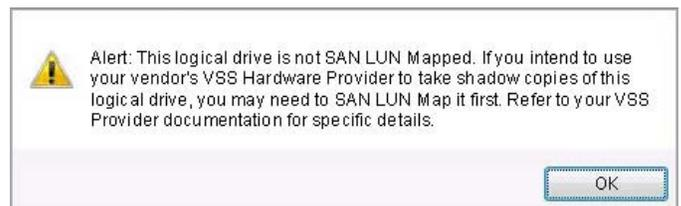

Fig. 124 - License Information Window
**IMPORTANT INFO:** If you have not mapped the logical drive, you will receive the alert message in Fig. 124.